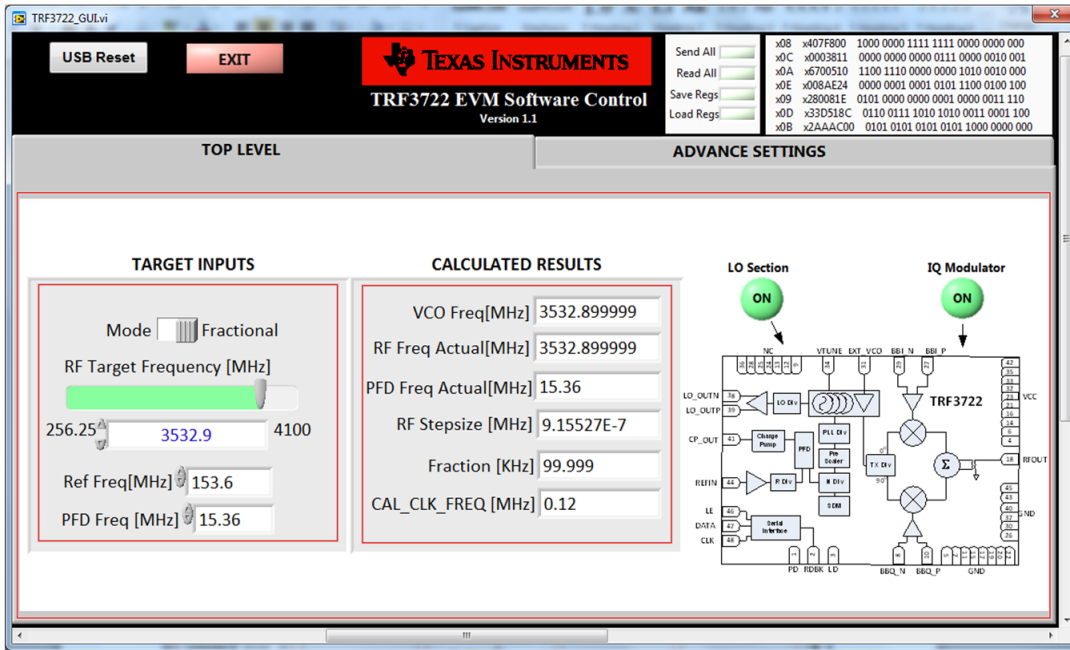

Figure 17. Fractional Mode Loop Filter (a)
- Set the GUI as shown in Figure 17 and Figure 18.